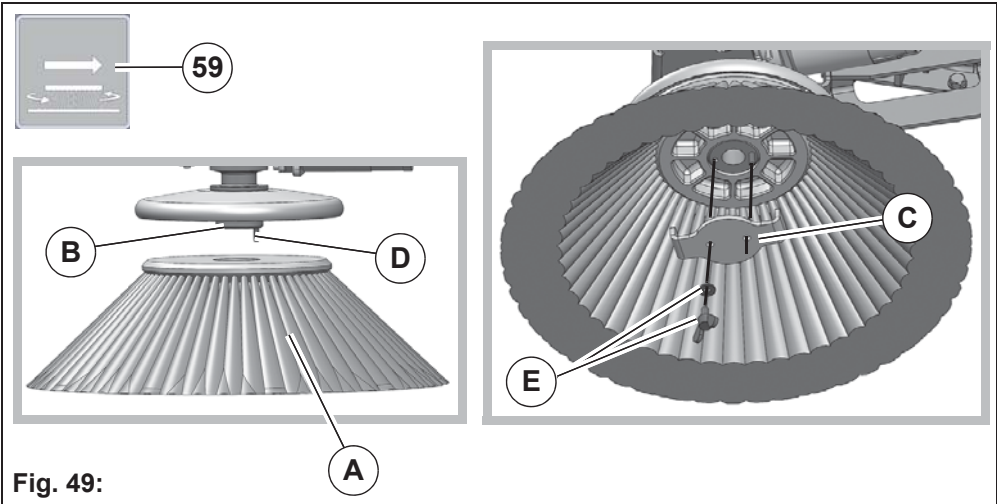

Fig. 49:
3. Fit the side brush **Fig. 49-A** to the hub **Fig. 49-B**.
4. Position the carrier plate **Fig. 49-C** in such a way that the pin of the hub **Fig. 49-D** goes through the hole of the carrier plate and the carrier plate is sitting firmly in the holder.
5. Secure carrier plate to hub with washer and wing bolt **Fig. 49-E**.